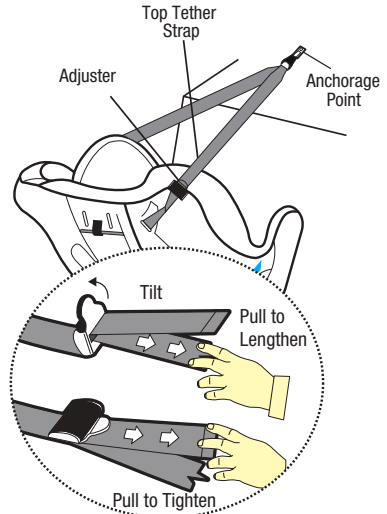

Figure 12
**Step 8:** Pull to tighten to remove all the slack from the upper anchorage strap. **Do not overtighten** as this could cause the restraint to lift off the vehicle seat (refer Figure 12).